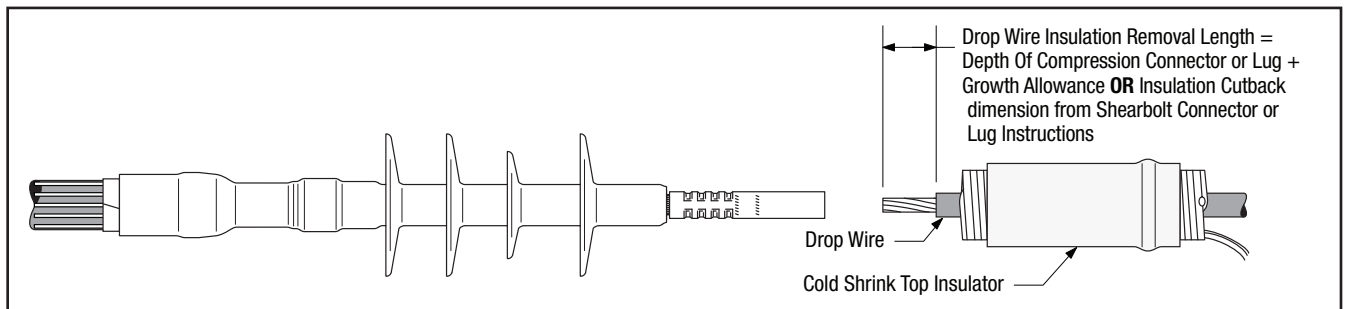

Figure 6
- 5.2 Remove insulation from end of drop wire (See Figure 6).
- 5.3 Position Cold Shrink Top insulator (Figure 6) over drop wire; directing loose core pull tab away from connector/lug area (**DO NOT PULL CORE AT THIS TIME**).